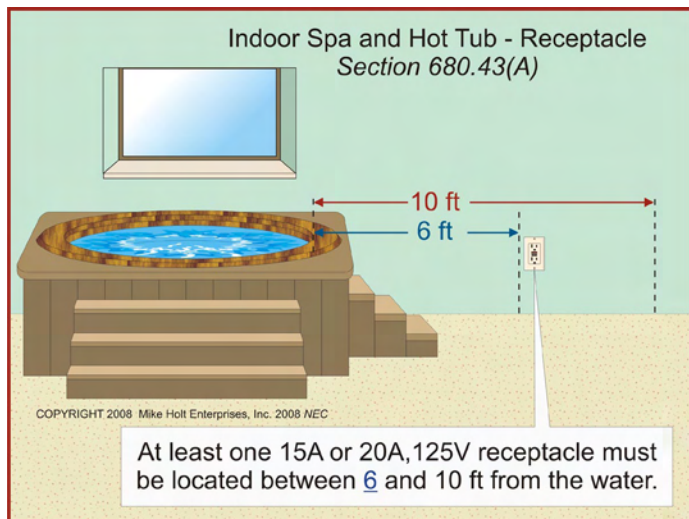

Figure 680–39
(A) Receptacles. At least one 15A or 20A, 125V receptacle must be located at least 6 ft, but not more than 10 ft, from the inside wall of the spa or hot tub. **Figure 680–39**